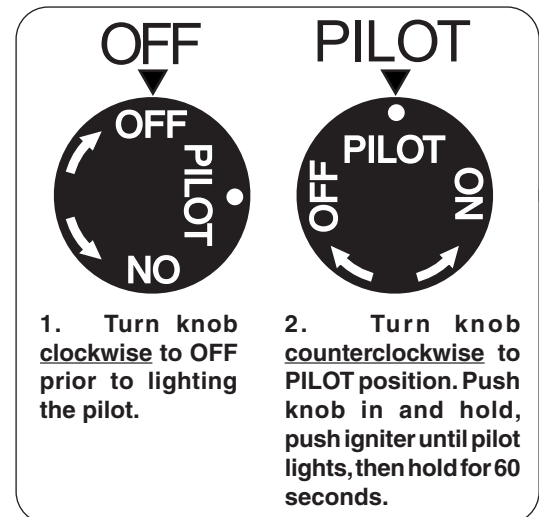

Fig. 25-1 Control knob detail (OFF, PILOT)
1. Locate the valve on the side of the unit. Push in the gas control knob slightly and turn clockwise to **OFF** (Fig. 25-1).
2. Turn the control knob counterclockwise to **PILOT** (Fig. 25-1). Push the control knob **firmly and fully** in and hold. Push the piezo igniter button several times until the pilot lights. Continue to hold the control knob in for approximately 60 seconds after the pilot is lit, then release the knob. The pilot will remain lit.